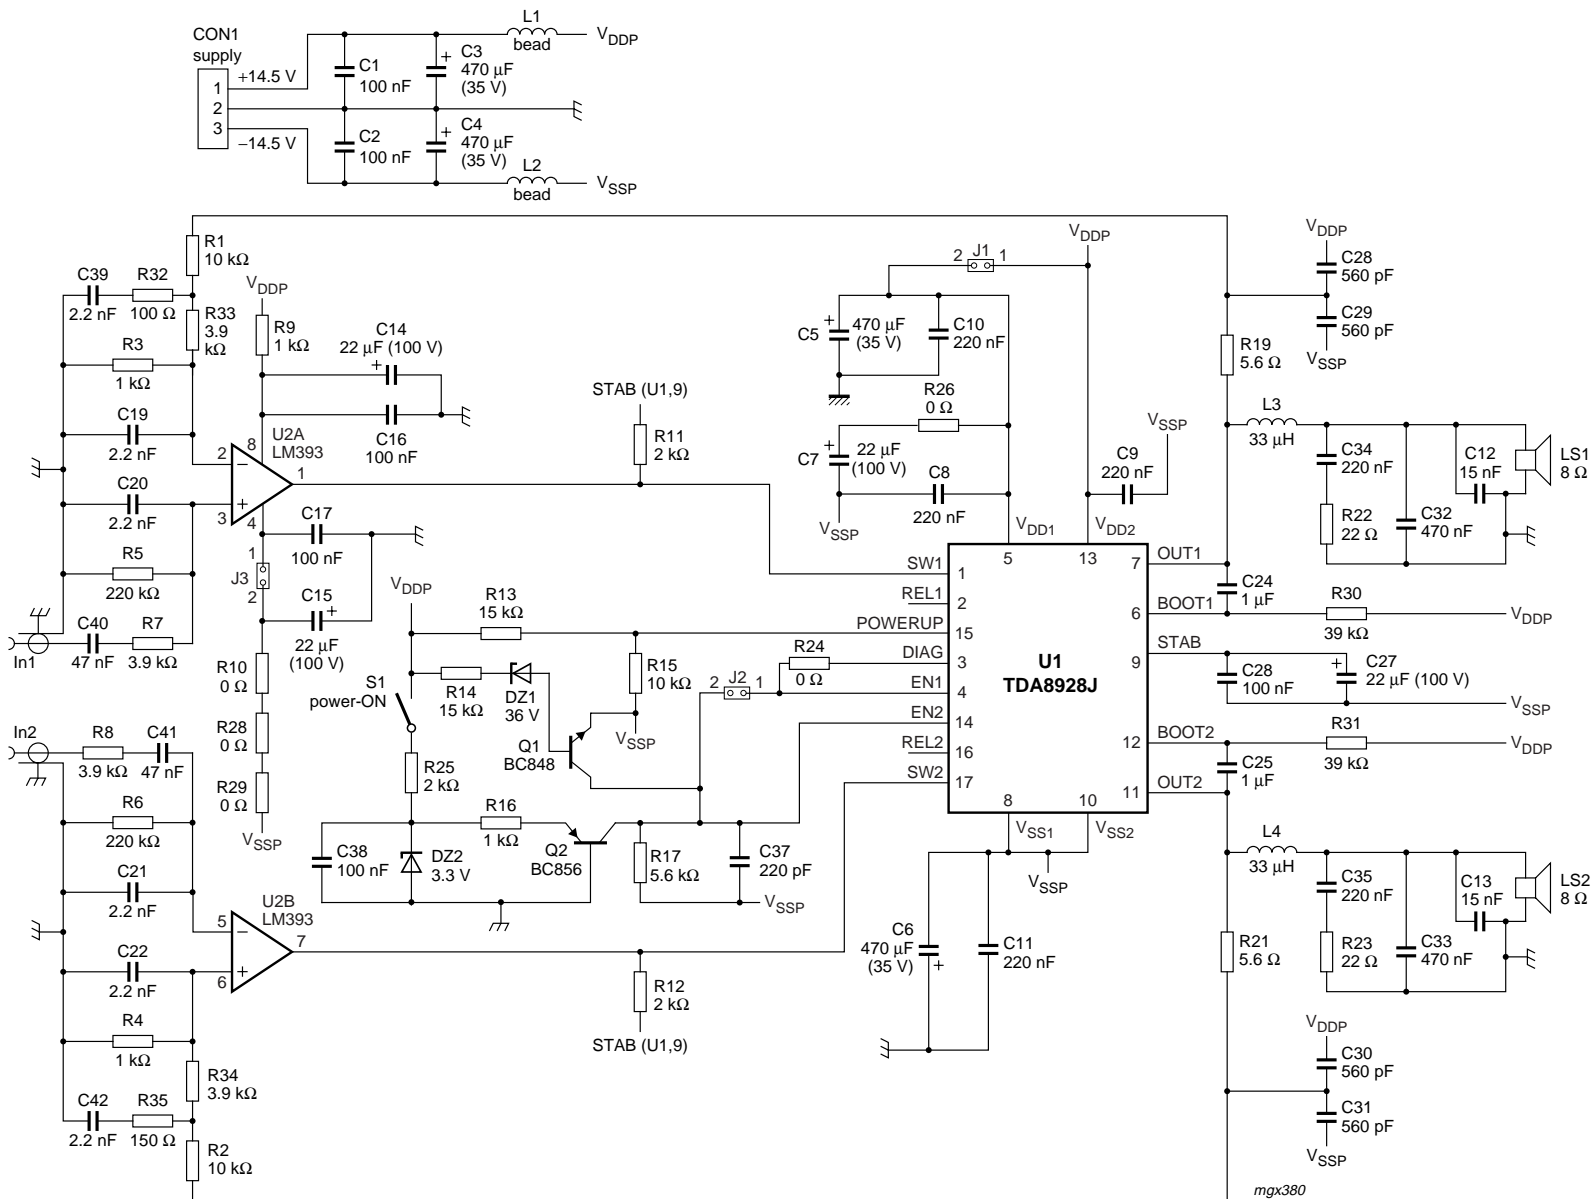

Fig.5 Single-ended self oscillating class-D system application diagram for TDA8928J.
- $V_P = \pm 12.5$ V; $R_L = 8 \Omega$; $f_i = 1$ kHz; $f_{osc} = 310$ kHz; $R_S = 0.1 \Omega$ (series resistance of filter coil); $T_{amb} = 25$ °C; measured in reference design (SE application) shown in Fig.5; unless otherwise specified.
- Total Harmonic Distortion (THD) is measured in a bandwidth of 22 Hz to 20 kHz (AES 17 brickwall filter). When distortion is measured using a low-order low-pass filter a significantly higher value will be found, due to the switching frequency outside the audio band. Measured using the typical application circuit, given in Fig.5.
For a SE application the application diagram as shown in Fig.5 can be used.
The reference design for a self oscillating class-D system for the TDA8928J is shown in Fig.5. The Printed-Circuit Board (PCB) layout is shown in Figs 6, 7 and 8. The bill of materials is given in Section 15.4.2.